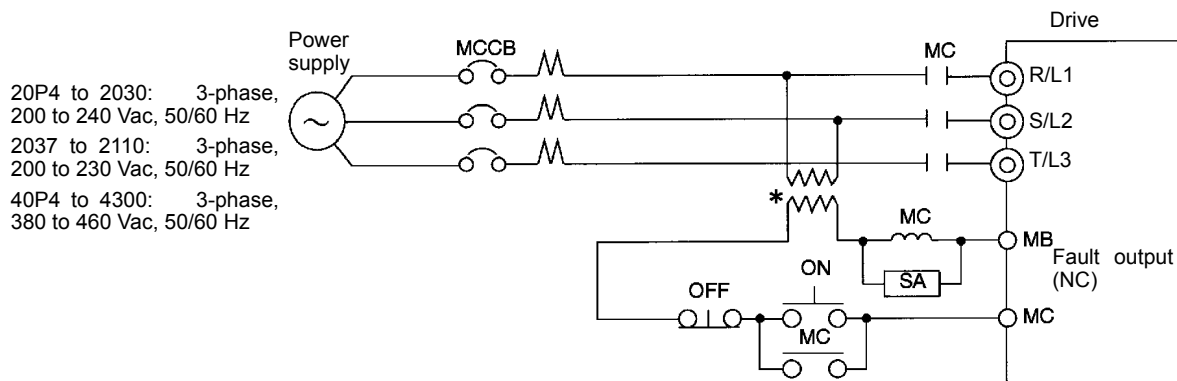

Fig 2.5 MCCB Installation
- If the same MCCB is to be used for more than one Drive, or other devices, set up a sequence so that the power supply will be turned OFF by a fault output, as shown in *Fig 2.5*.